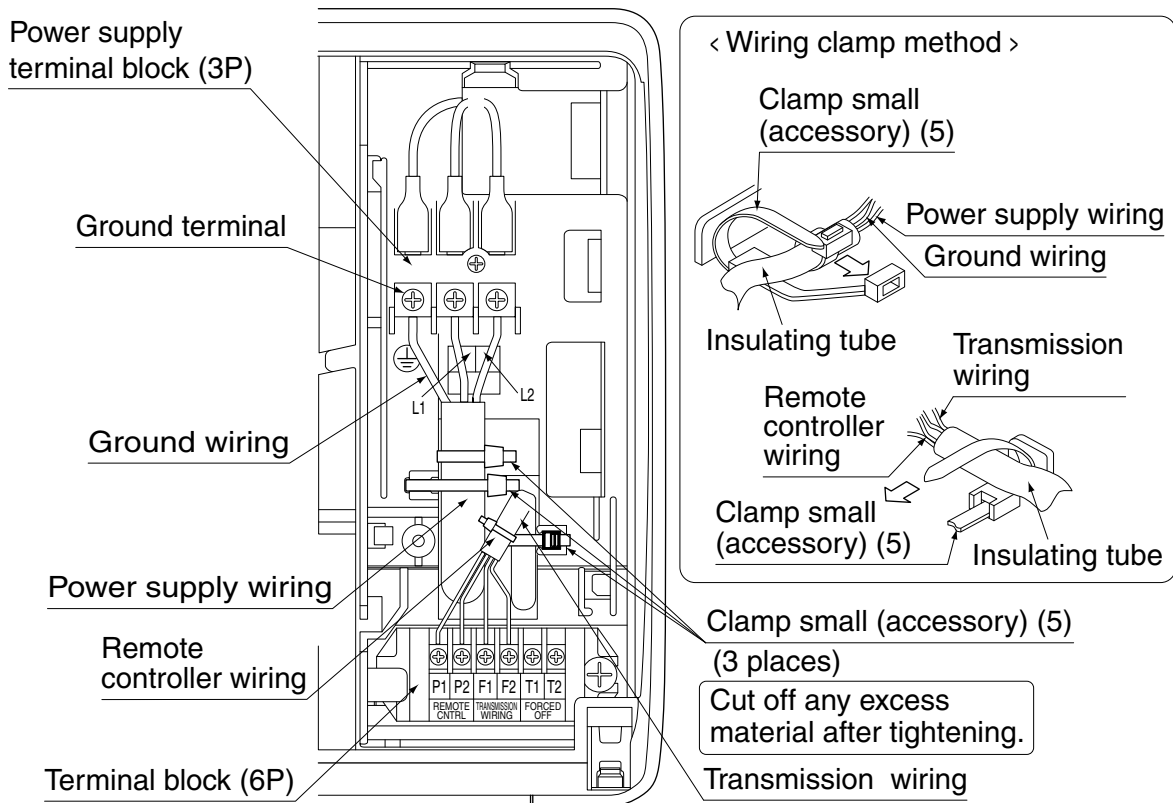

Fig. 22
When doing this, firmly secure using the included clamp (small) (5) according to the figure. **(Refer to Fig. 22)**
(Refer to Fig. 22)